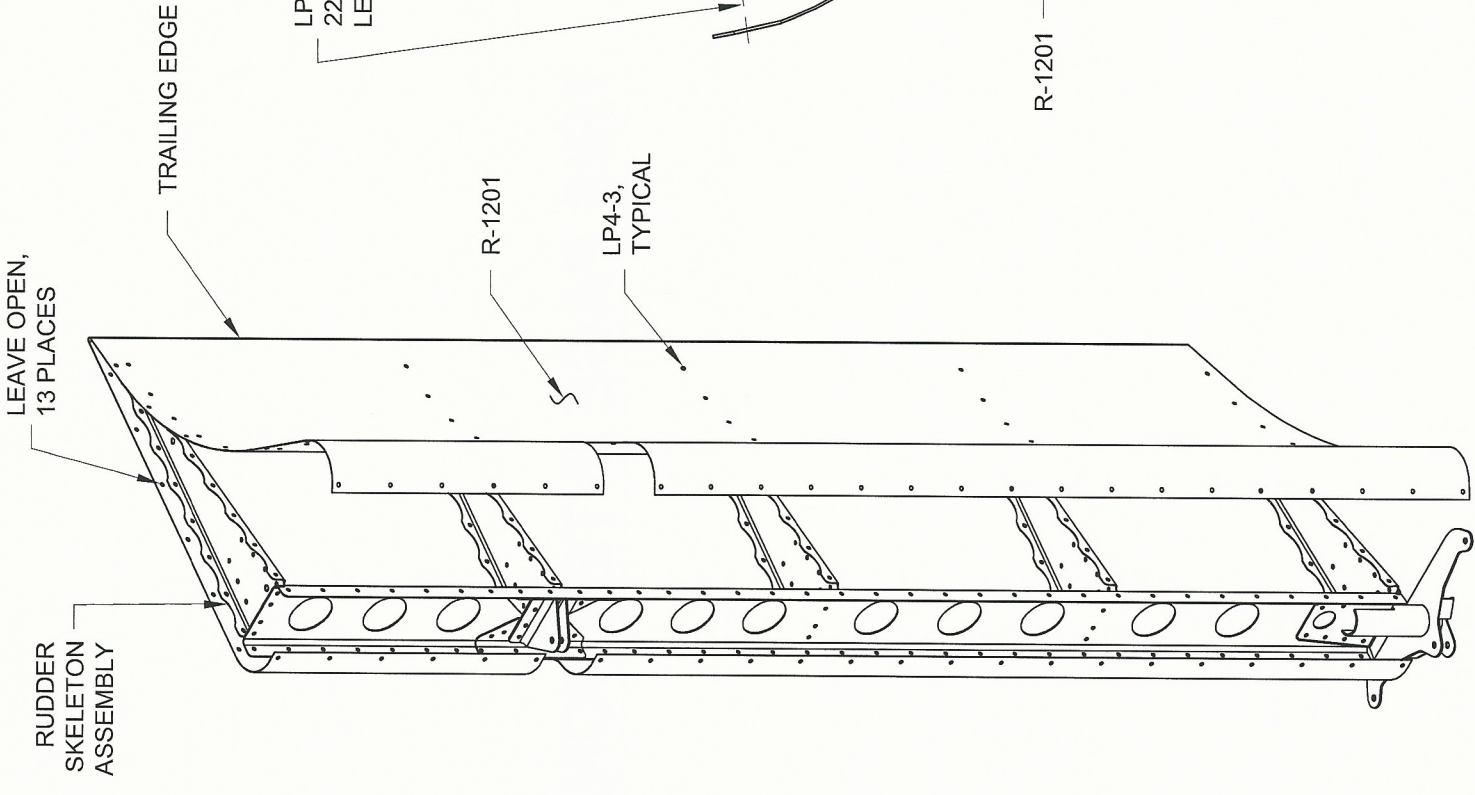

FIGURE 2:
Step 3: Starting nearest to the trailing edge rivet the R-1201 Main Skin to the Rudder Skeleton Assembly per call-out in Figure 2. Leave open the top row of holes in the main skin.